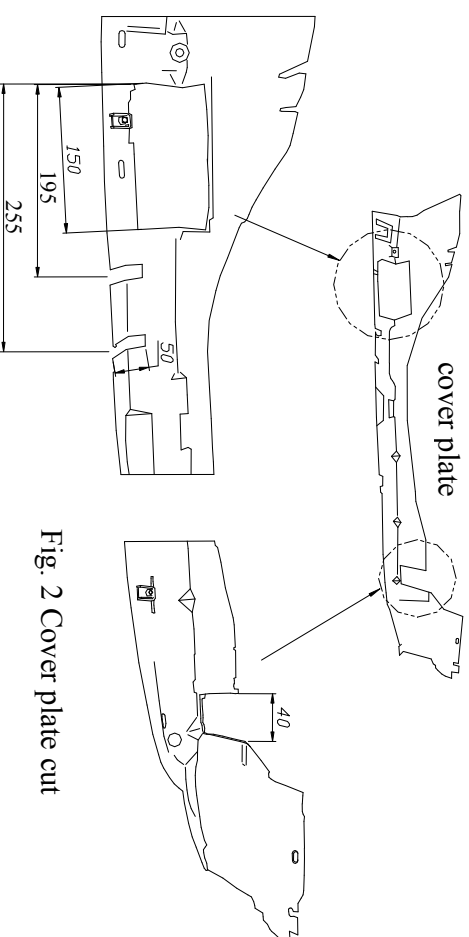

Fig. 2 Cover plate cut
2. In factory prepared places fix side brackets (pos. 3 and 4) using bolts M10x35mm pos. 7 (loosely).
3. Assemble cover plate, before install cut out his fragments according to figure 2.
4. Put main bar of the towbar pos. 1 between fixed side brackets and twist on bolts M12x35mm (pos. 6).